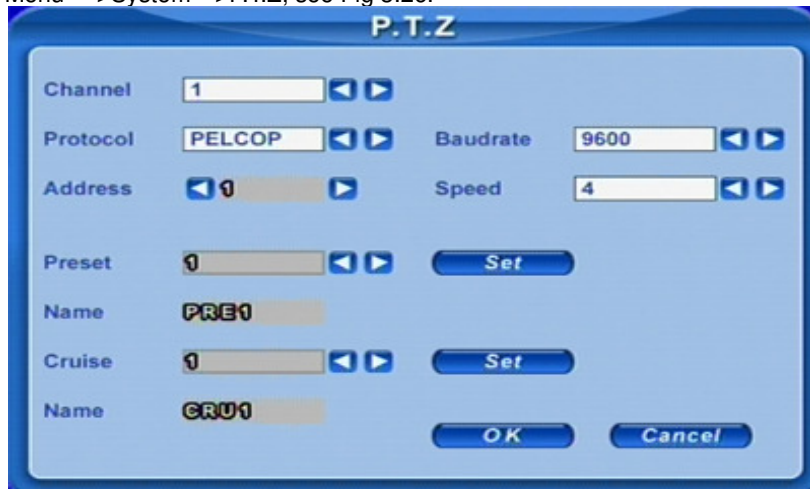

Fig 3.26 PTZ Setup
STEP1 Press right mouse button to show the control bar. Enter Menu---->System---->P.T.Z, see Fig 3.26.